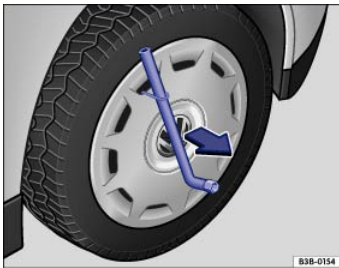

Fig. 175 Pulling the wheel cover off.
- Slide the lug wrench through the clip ⇒ Fig. 175 and pull the wheel cover off in the direction of the arrow.